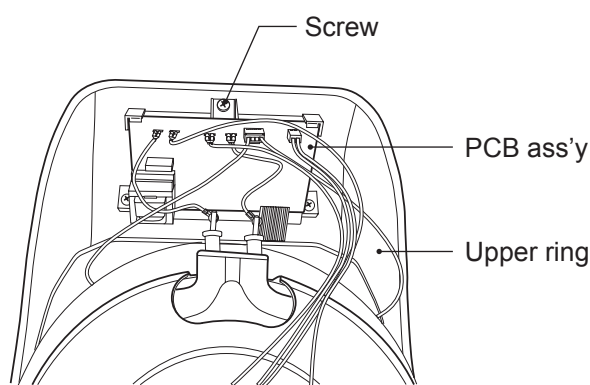

Fig. 6.
3. Remove the 3 screws fixing the PCB ass'y to the panel ring. (Fig. 6.)